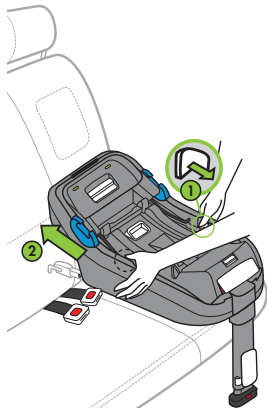

Figure 45
- Use thumbs to press and hold both UAS Adjustment Buttons (1) while pushing the Base firmly towards vehicle seat back (2), as shown in **Figure 45**.